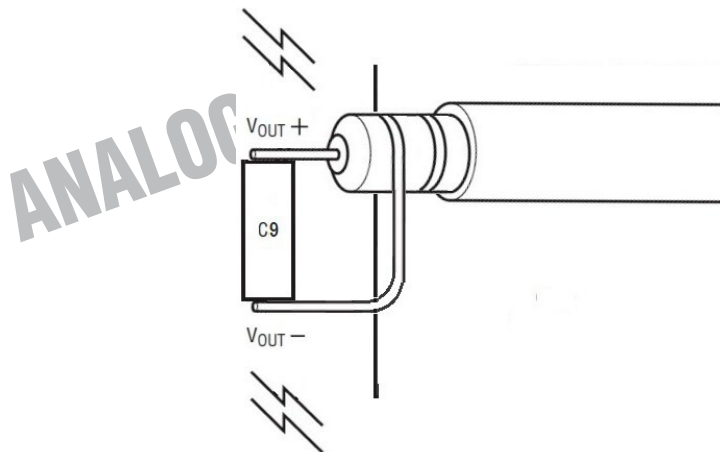

Figure 2. Measuring Output Ripple at Output Capacitor C9
**NOTE:** When measuring the input or output voltage ripple, care must be taken to avoid a long ground lead on the oscilloscope probe. Measure the output voltage ripple by touching the probe tip directly across the output capacitor. See Figure 2 for the proper scope technique.